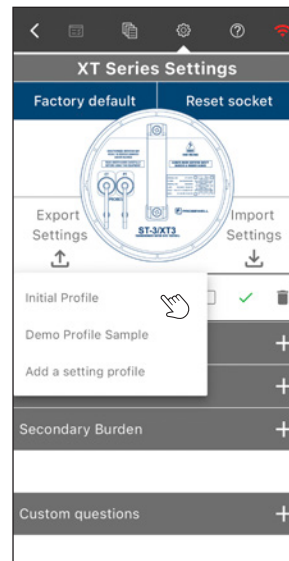

Figure 3
- Select a profile:** Click the drop-down menu and select the name of the needed profile (Figure 3).